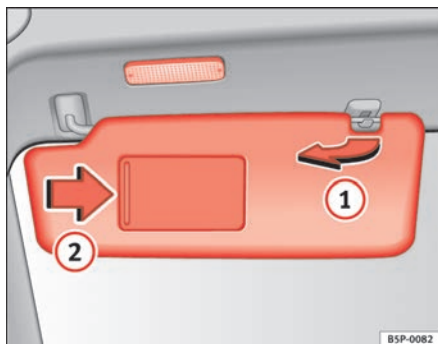

Fig. 80 Sun visor on the driver side
The sun visors for the driver and the front passenger can be pulled out of their mountings in the centre of the vehicle and turned towards the doors ⇒ fig. 80 ①.